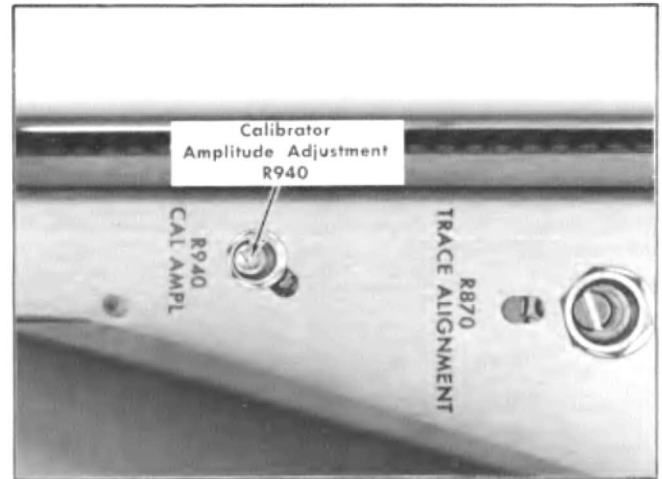

Fig. 6-8. Location of Calibrator Amplitude adjustment (Calibrator and High Voltage chassis).
- e. Adjust—R940, Calibrator Amplitude adjustment, so the trace is at the center horizontal graticule line (Fig. 6-8).